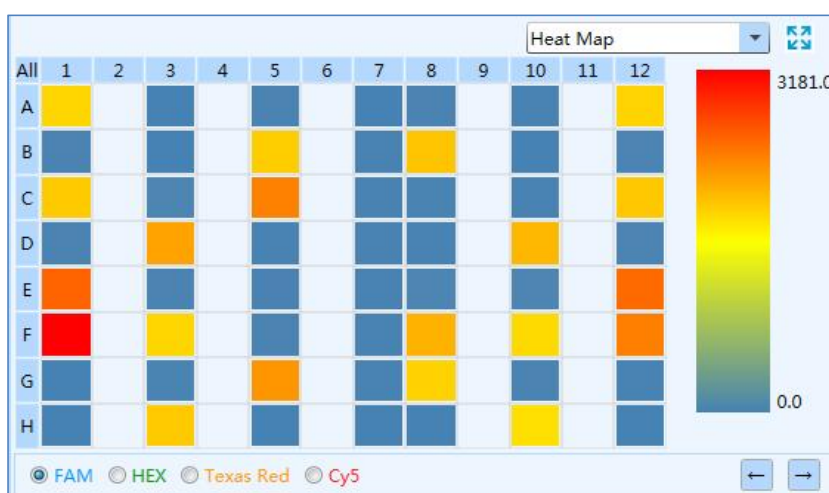

Figure D-7.6. Run Monitoring Interface - Heat Map Function Module
6. **Heat Map:** display the real-time fluorescence heat map of the current running experiment, as shown in figure D-7.6.